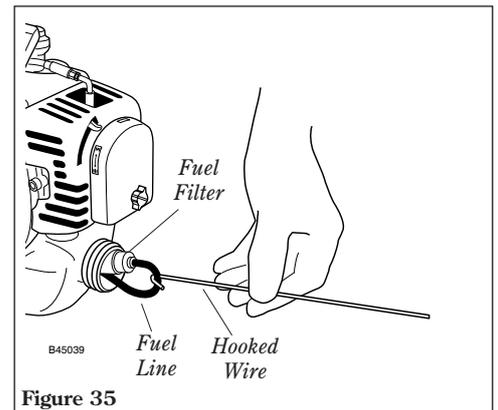

Figure 35
- Use a hooked wire to extract the fuel filter from inside the fuel tank. Remove and replace the filter element. Before reinstalling the filter, inspect the condition of the fuel line. If damage or deterioration are noted, the unit should be removed from service until it can be inspected by a Shindaiwa-trained service technician. See Figure 35.